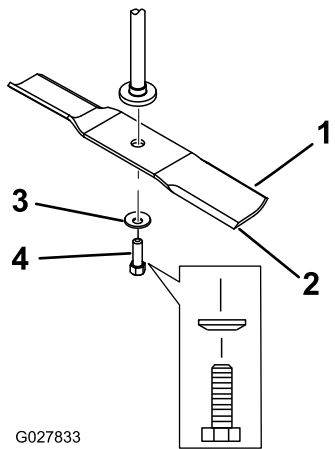

Figure 61
2. Remove the blade bolt, curved washer, and blade from the spindle shaft (Figure 61).
- Install the blade onto the spindle shaft (Figure 61).
- Install the curved washer (cupped side toward the blade) and the blade bolt (Figure 61).